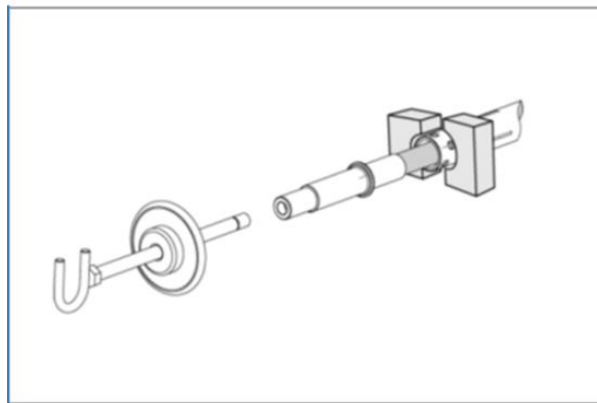

Figure 5 – Journal Removal
- 6) Using a round clamping fixture to protect the shaft body, lock the shaft in a vise. (Refer to Figure 5)